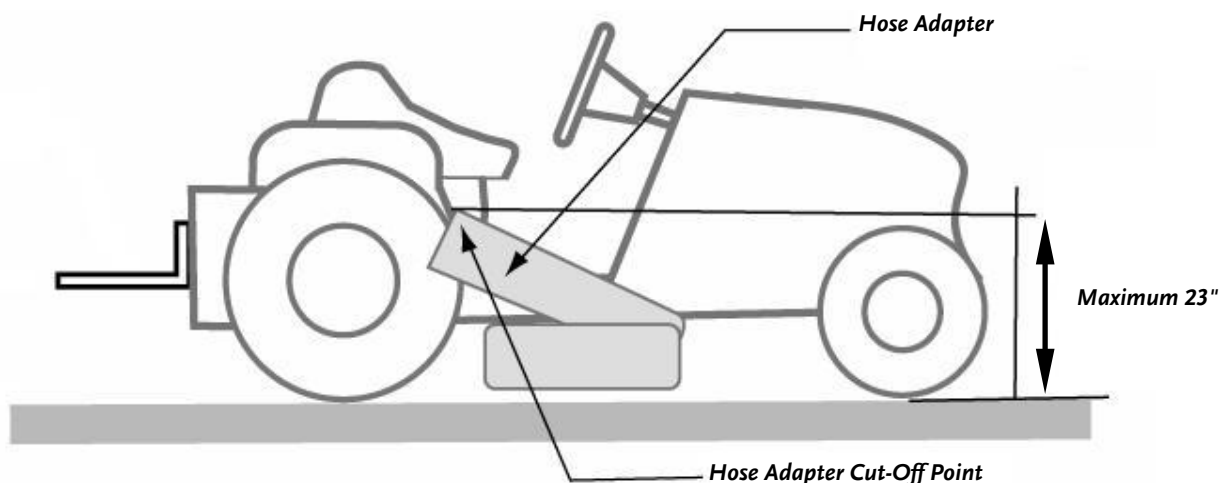

Figure 20
2. Mark the distance of approximately 23" from the ground to the top surface of your lawn deck adapter exit tube (**Figure 20**).
3. Remove the lawn deck adapter from your lawn tractor and using a saw, cut the exit tube of the lawn deck adapter at 90° (**Figure 20**).